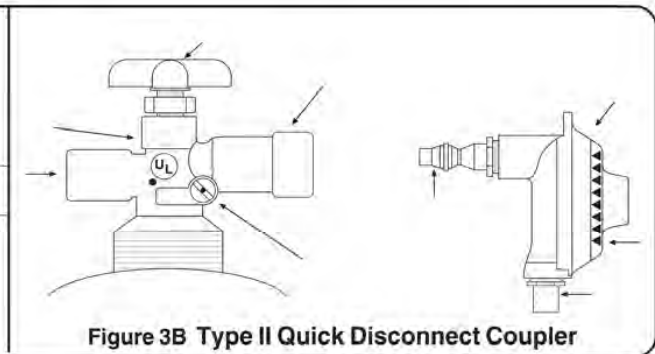

Figure 3B Type II Quick Disconnect Coupler
- g. Your propane gas cylinder may be equipped with a Type II Quick Disconnect (plug-in) Coupler (Figure 3B). An approved regulator /hose assembly for this type of coupling is available through your dealer from R.H. Peterson Co.